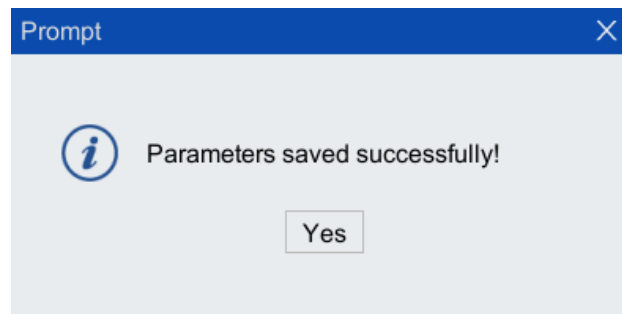

Figure 5-49 Save successfully prompt box
Step3. Click <Yes> in the pop-up parameter save success dialog box. As shown in Figure 5-49.